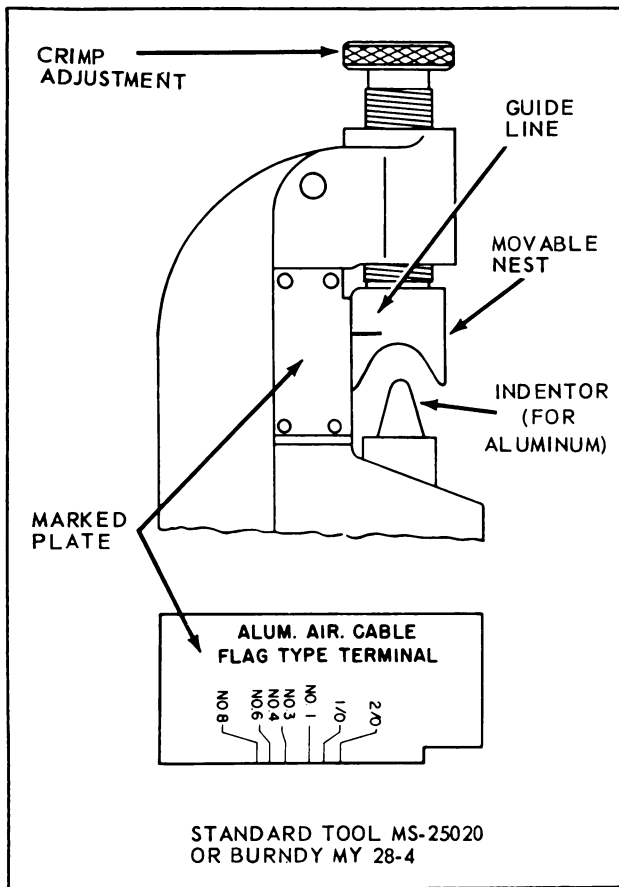

Figure 5-10. Tool - Hand Crimping - Aluminum Terminals
5-46. HAND TOOLS. The hand tool, Burndy No. MY28-4, is similar to Burndy tool No. MY28, used for uninsulated copper terminal lugs, except for the shape of the indenter. See Figure 5-10. Make sure the proper shaped indenter is installed in the MY28-4 tool for use on aluminum terminal lugs.
a. Set tool to proper crimping position for terminal lug size being crimped. This is done by moving nest by means of adjustment screw until guide line on nest is centered over line on marked plate corresponding to terminal lug size being crimped. See Figure 5-10.